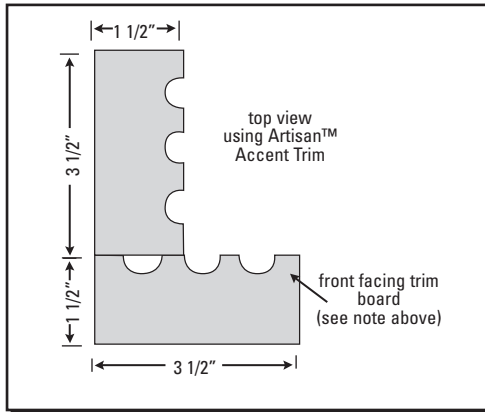

FIGURE 17
Artisan lap requires a trim thickness of 1 1/2" for proper aesthetics (*figs. 17 & 18*).
*Note: James Hardie® recommends installing trim boards so that seams are not visible from the front facing or street curb view (fig.17).*